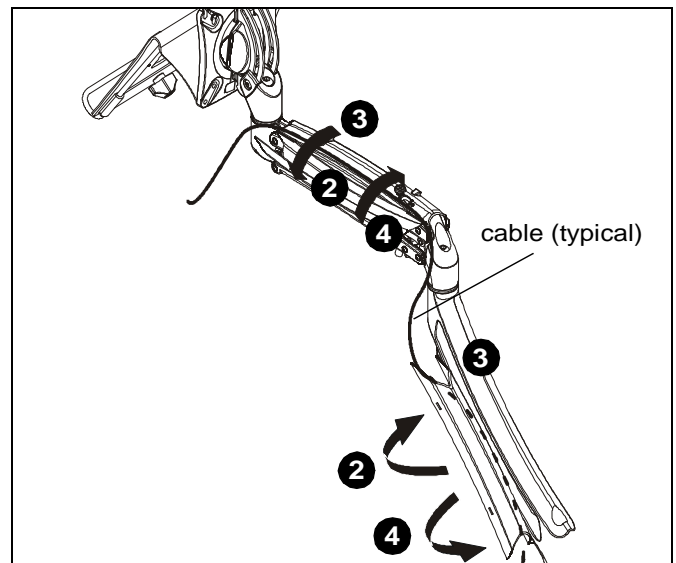

Figure 11
3. Route cables through cable management channels. (See Figure 11)
4. Close cable management covers on monitor arm. (See Figure 11)